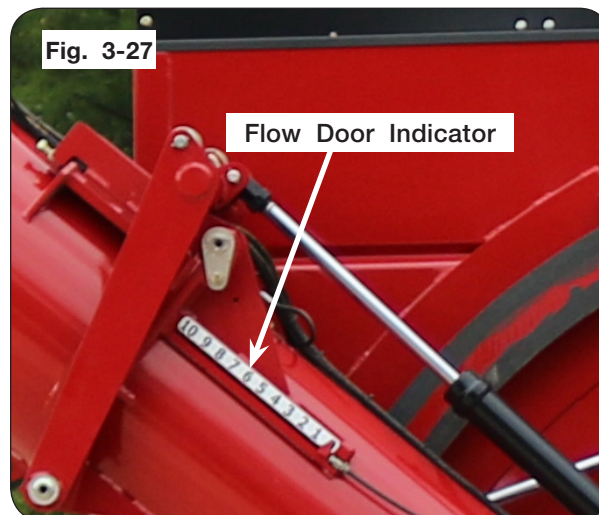

Fig. 3-27
5. Open flow control door to desired unloading rate. Numbers on the auger tube provide a point of reference for operator convenience. (FIG. 3-27)